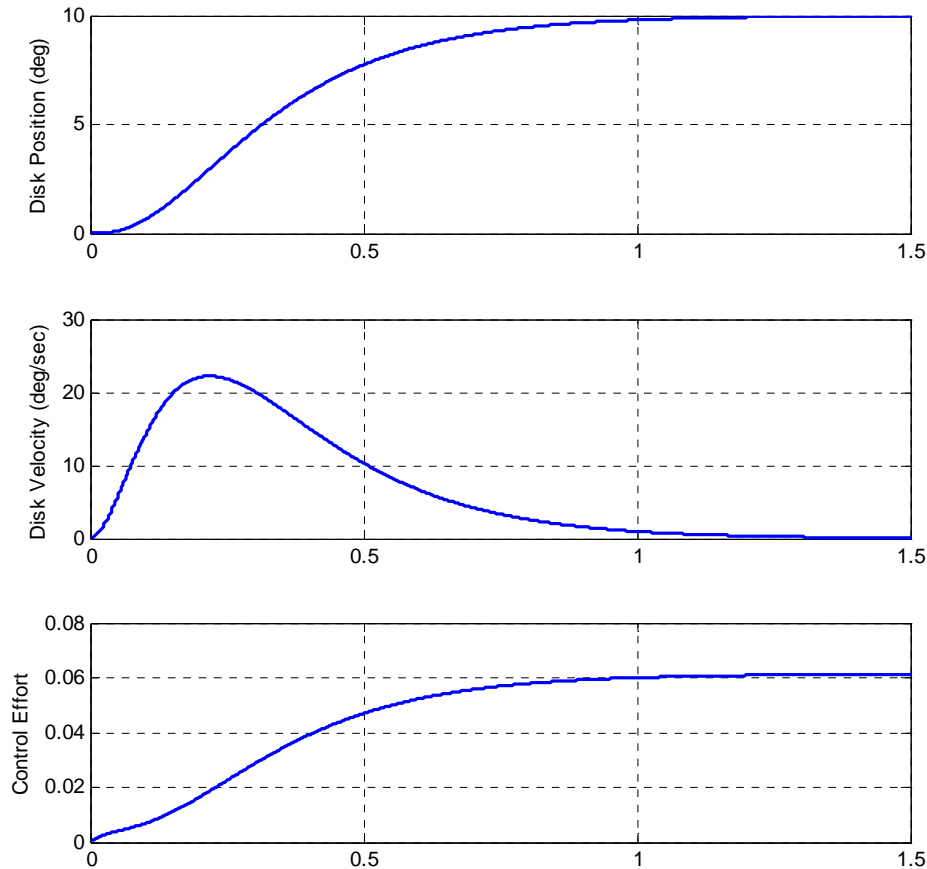

Figure 2. Initial results for the 1 dof system with integral control (problem 1c).
c) Set the step amplitude to 10 degrees (but convert to radians), the final time to 1.5 seconds, place the poles at -5, -10, -15, and run the simulation. You should get results like those shown in Figure 2.